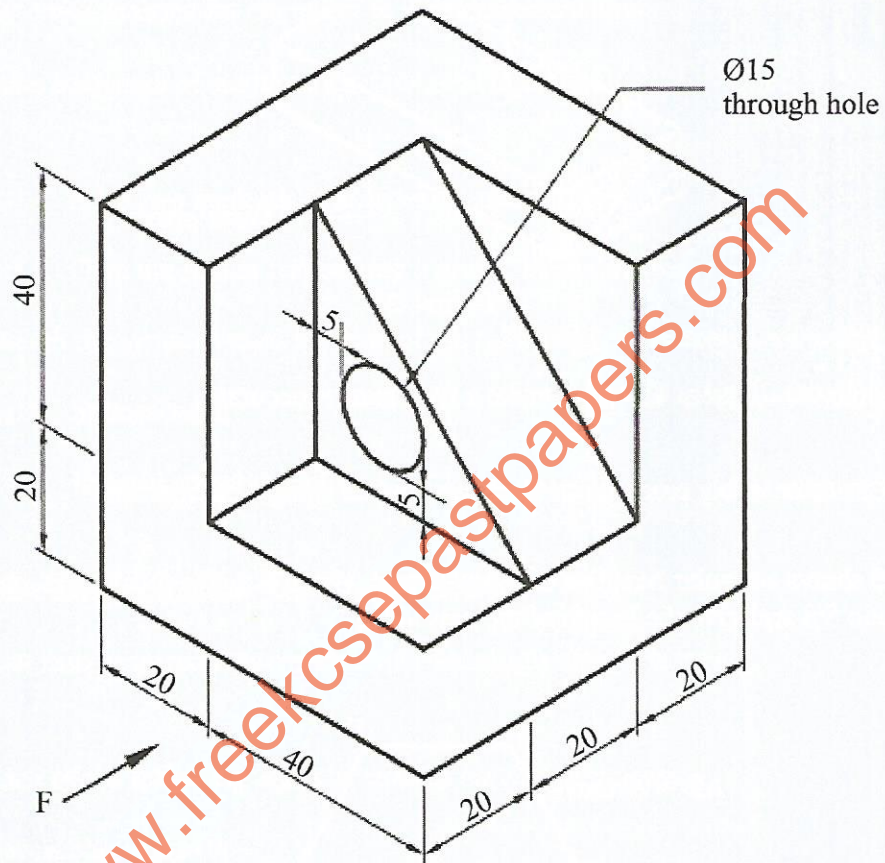

Figure 4
11. **Figure 4** shows a shaped block drawn in isometric projection.